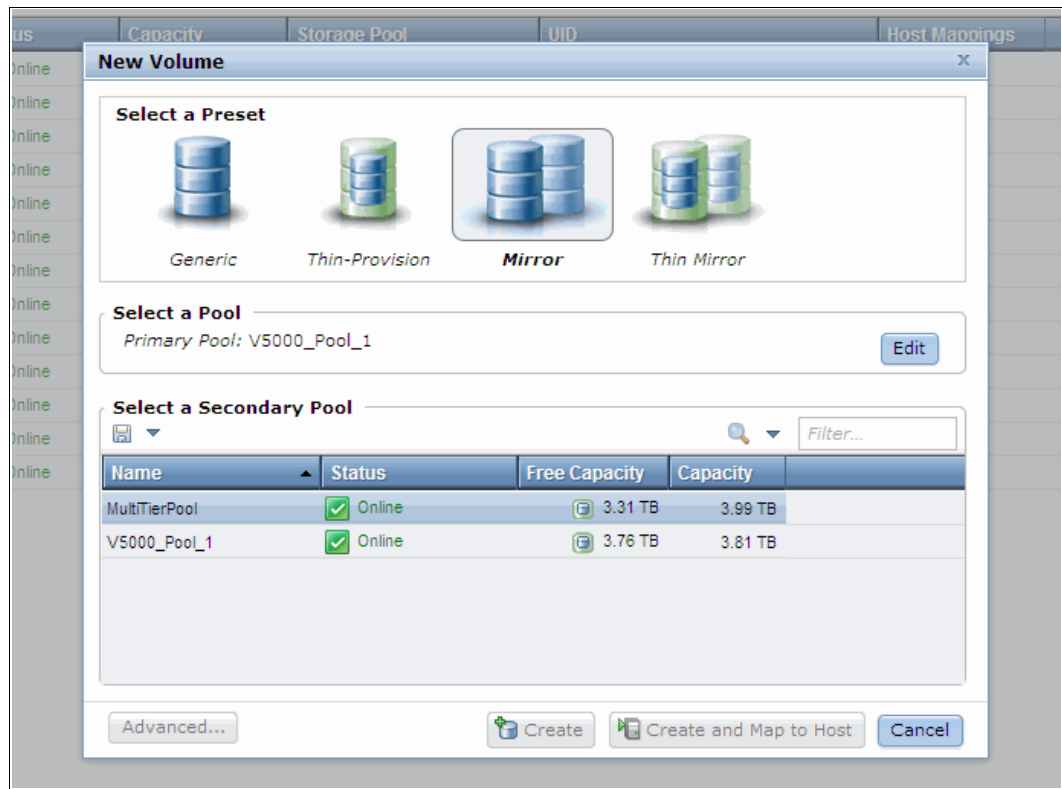

Figure 5-13 Selecting primary storage pool
2. Select the primary pool by clicking it and the view changes to the secondary pool, as shown in Figure 5-13 on page 171.